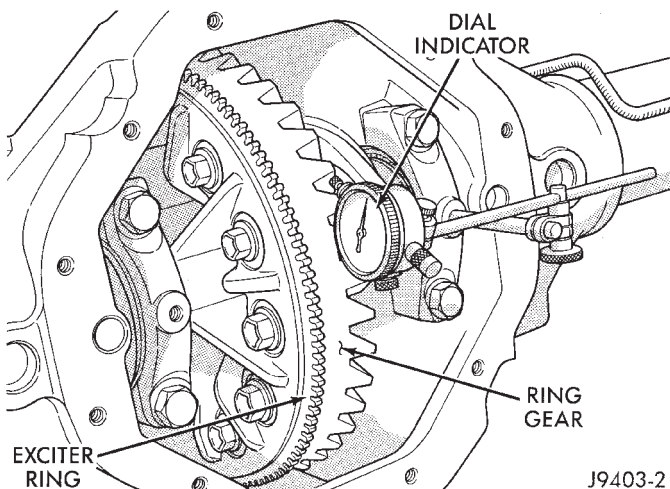

Fig. 80 Ring Gear Backlash Measurement
(2) Install dial indicator and position the plunger against the drive side of a ring gear tooth (Fig. 80). Measure the backlash at 4 positions (90 degrees apart) around the ring gear. Locate and mark the area of minimum backlash.
(3) Rotate the ring gear to the position of the least backlash. Mark the gear so that all future backlash measurements will be taken with the same gear teeth meshed.